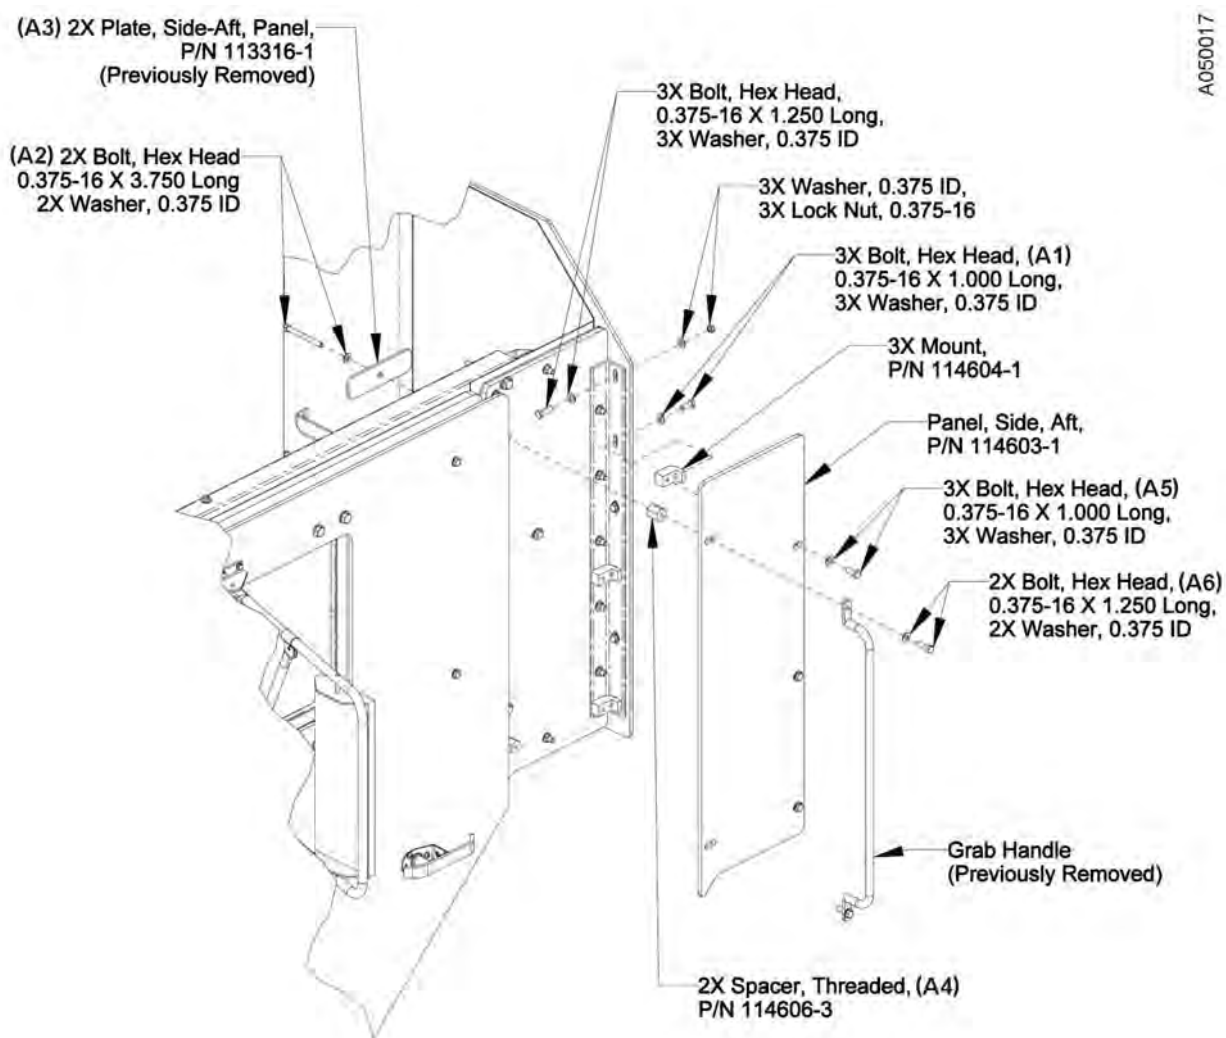

Figure 5. Installation of the Aft Applique Armor Panel.
- e. Insert bolts / washers (A2) through the Aft Armor Panel Plates (A3) from inside of the cab and attach threaded spacers (A4) (see Figure 5).